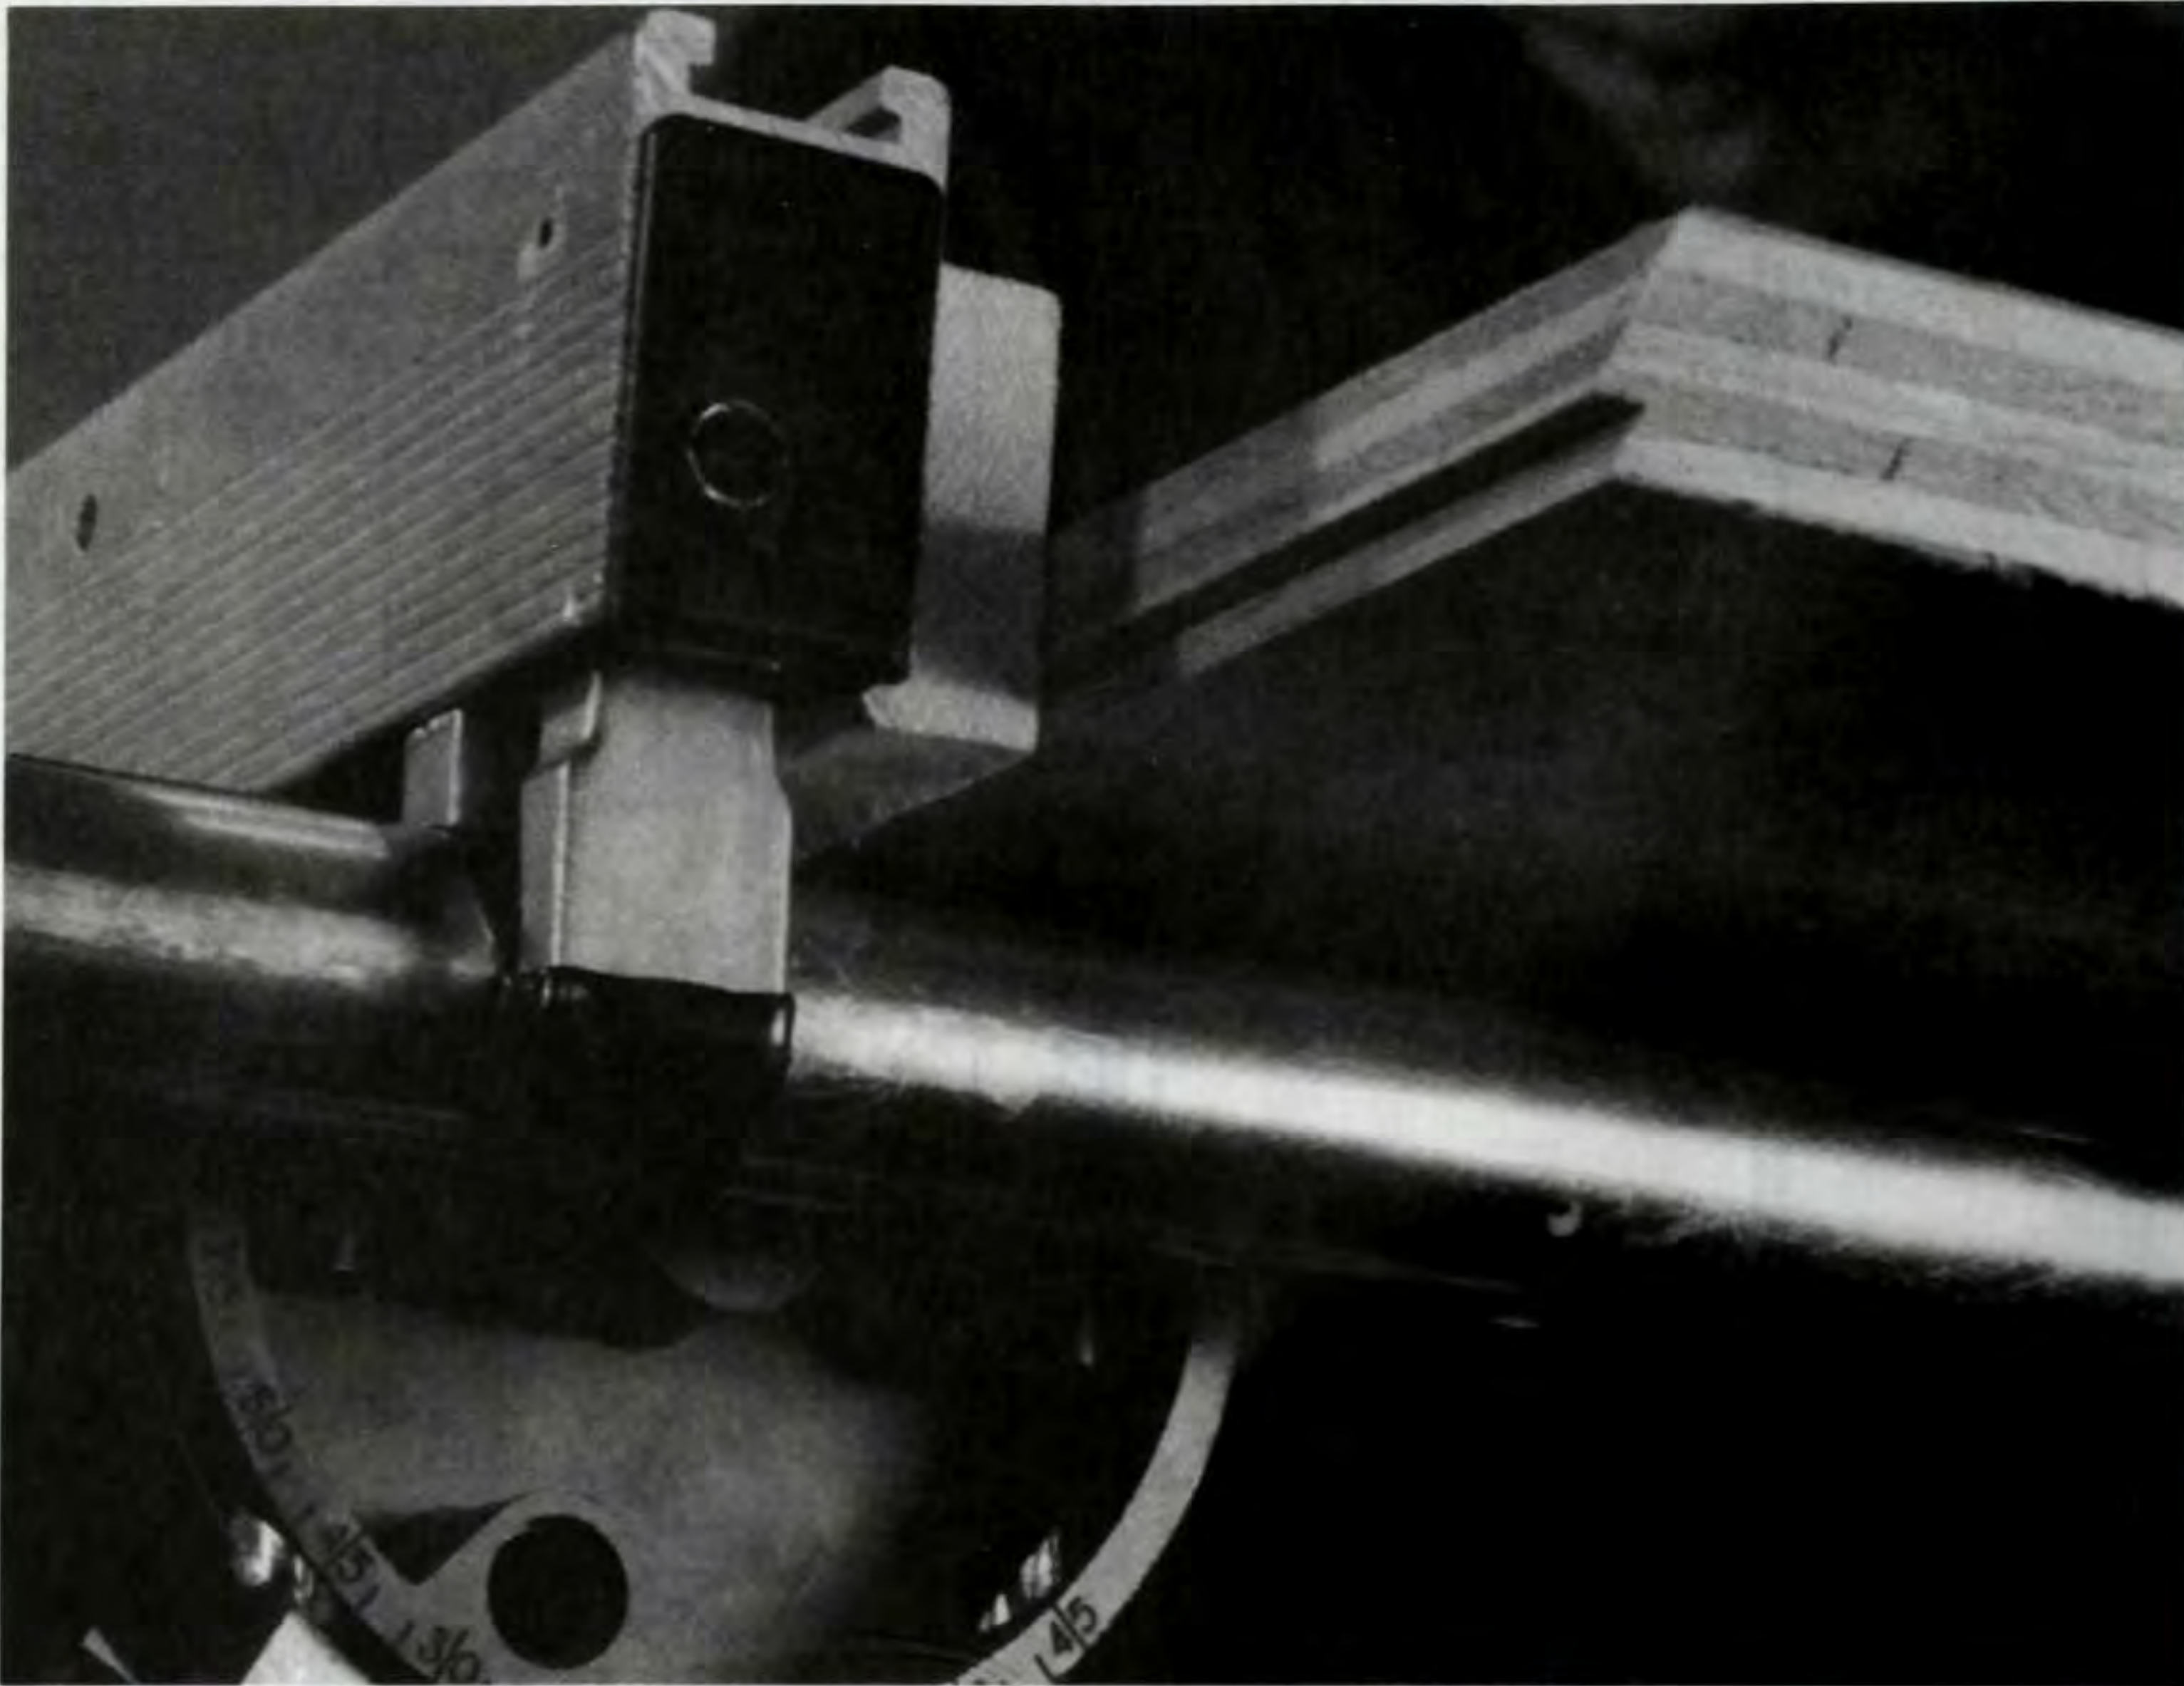

Figure 3. If you do not have a dado blade to make the rabbet in the cabinet top/bottom (E) and sides (F), make repetitive grooves on your table saw.
Figure 3. Custom cut the splines (J) to fit the grooves you made in the stiles and rails. The spline's grain runs perpendicular to the longest length shown here. This makes the joint strong.